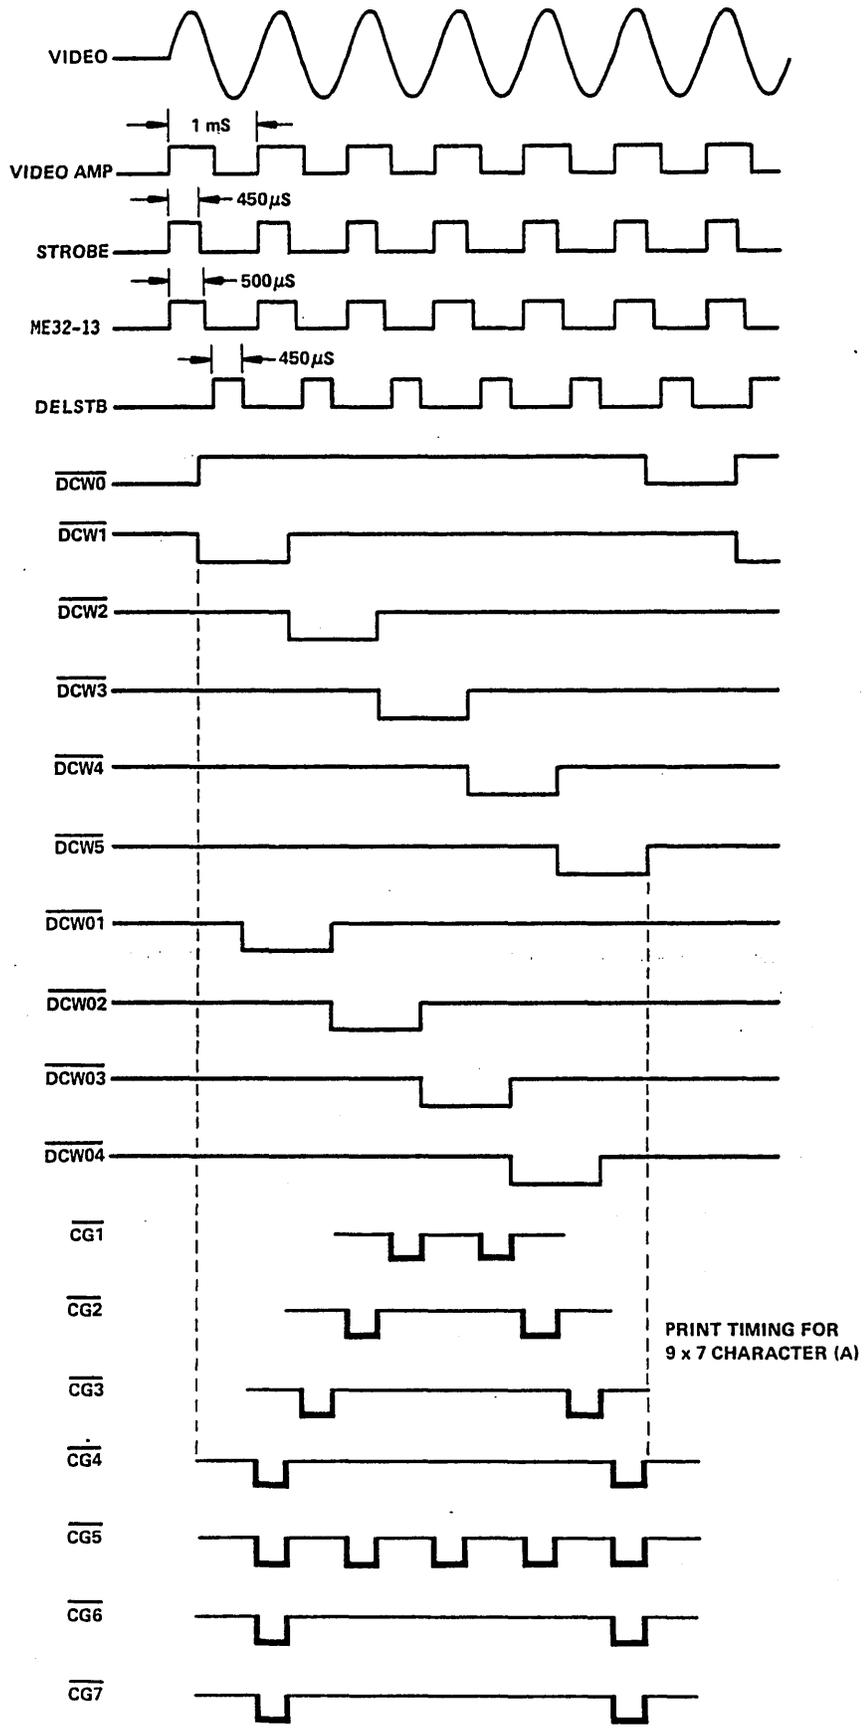
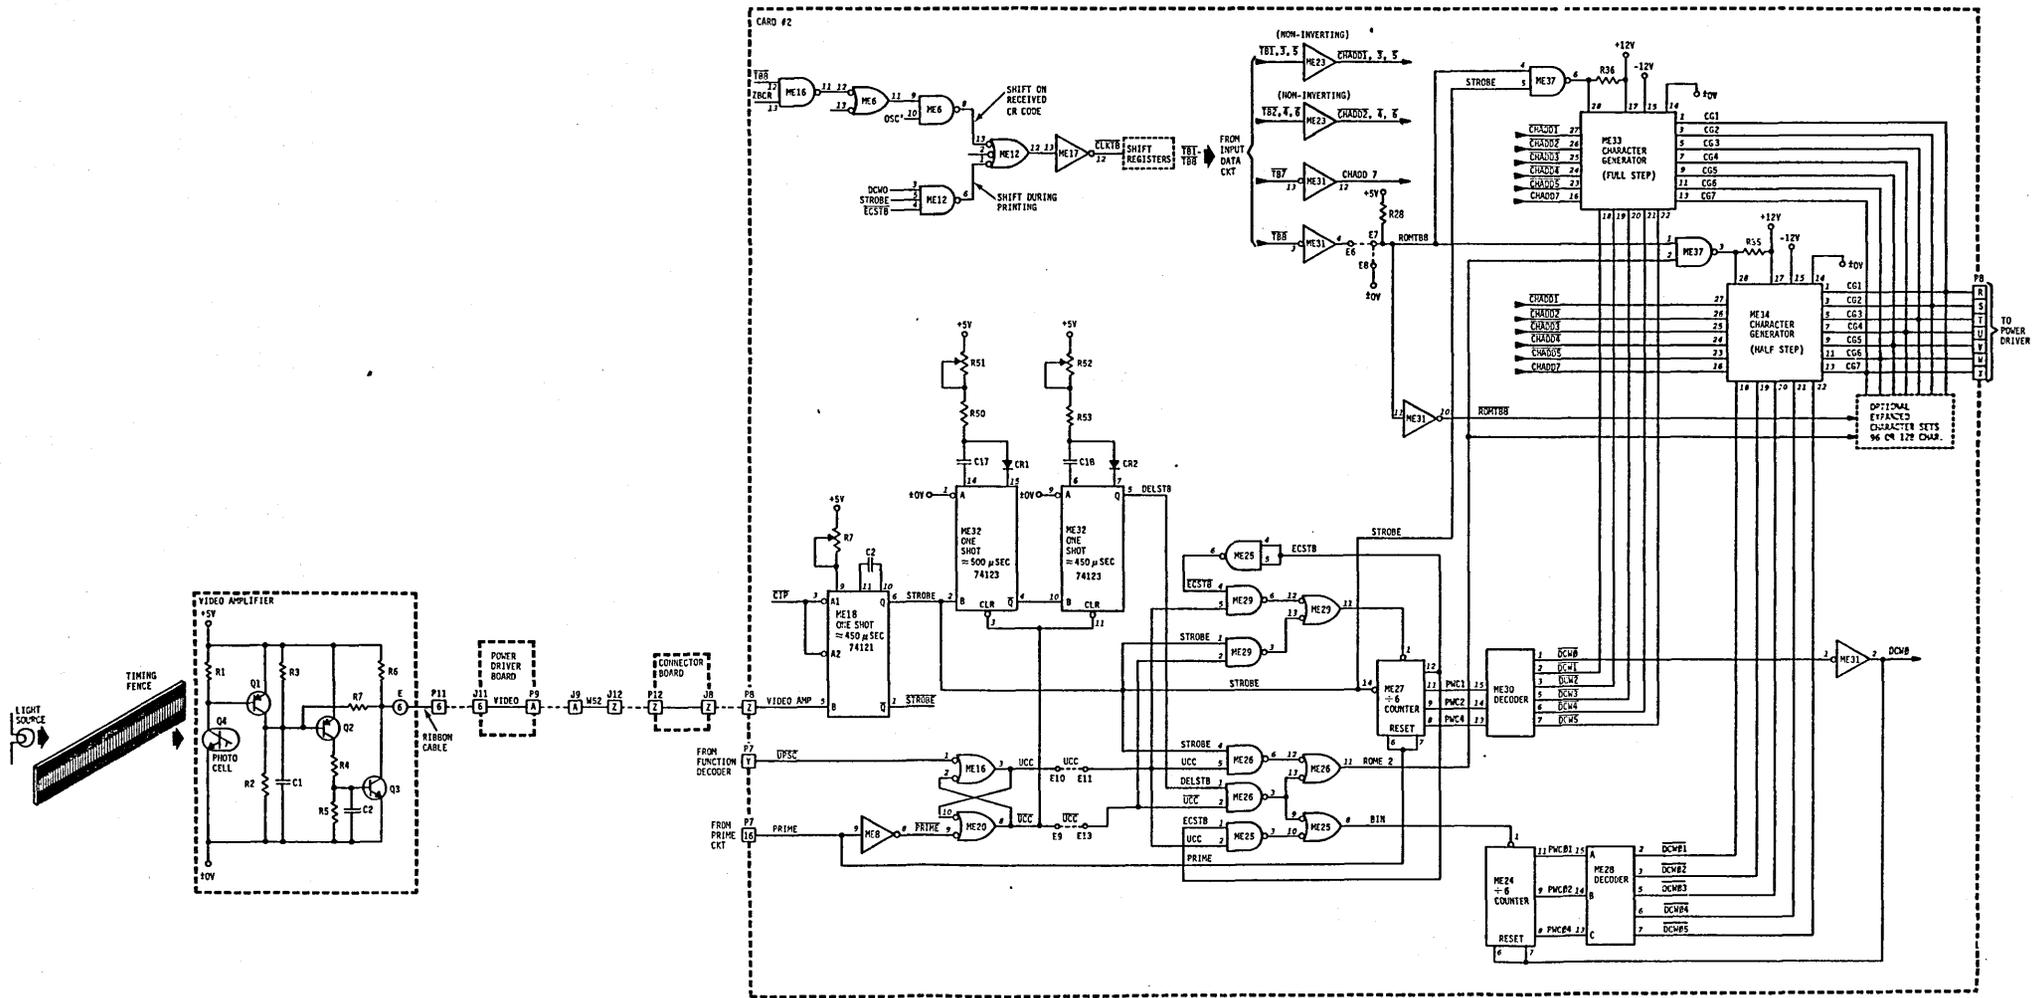

Figure 4-15. CHARACTER TIMING
Figure 4-16. CHARACTER REGISTRATION AND TIMING CIRCUIT
4.5.3 CHARACTER REGISTRATION AND TIMING (Figure 4-15, Timing; Figure 4-16, Circuit)
As the print head assembly moves across the timing fence, the vertical slots on the timing fence interrupt light to the optical pick-up head, generating a video signal. The VIDEO AMP output then triggers the STROBE one-shot ME18 on the logic card, initiating the print timing shown in Figure 4-15.
4.5.3.1 Video Amplifier (Figure 4-16)
4.5.3.2 Timing Signals (Figure 4-15, Timing; Figure 4-16, Circuit)
During each video interval both a STROBE pulse and a DELSTB pulse of the same width is generated as shown in Figure 4-15. During normal character printing (when UCC is high), four consecutive DELSTB inputs to counter ME24 generate timing outputs DCW01-DCW04. These four timing intervals correspond to the four additional ("half-step") columns in the 9 x 7 matrix. Timing signals (DCW01-DCW04) are used to address the appropriate column in the "half-step" ROM (character generator).
4.5.4 CHARACTER GENERATOR (ROM) - Figure 4-16